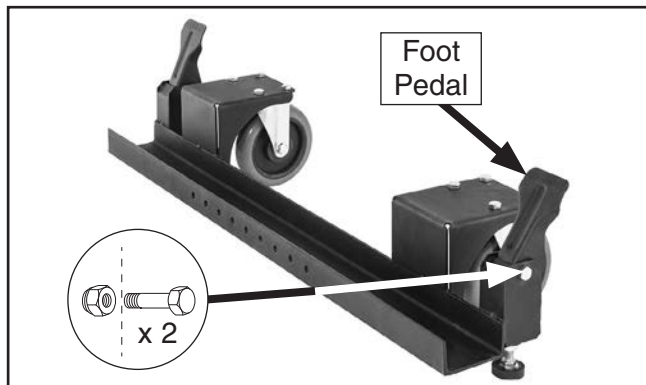

Figure 7. Foot pedals attached to support bracket.
7. Attach foot pedal to each side of support bracket using (1) M8-1.25 x 50 shoulder bolt and (1) M8-1.25 lock nut (see **Figure 7**).